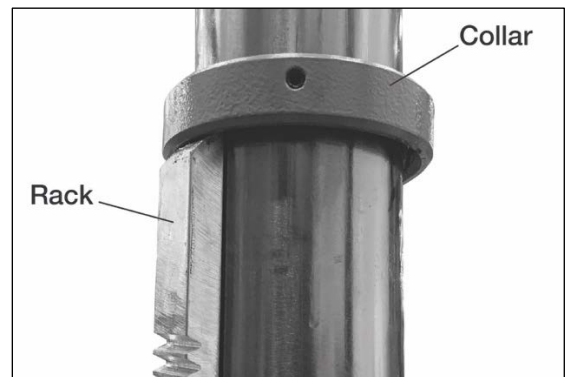

Figure 6-3
5. Remove collar (T₁) and rack (T₂) from column. See Figure 6-3.